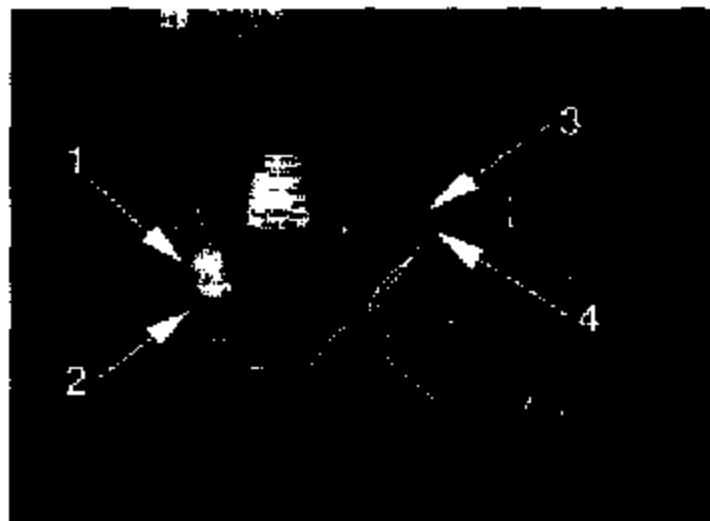

Figure 1
3. Locate the four-pin harness plug that is coming from the Battery Disconnect. This will be located along the left side of the large isolator relay. See Figure 1 with the four-pin harness identified as items "#1" and "#2".